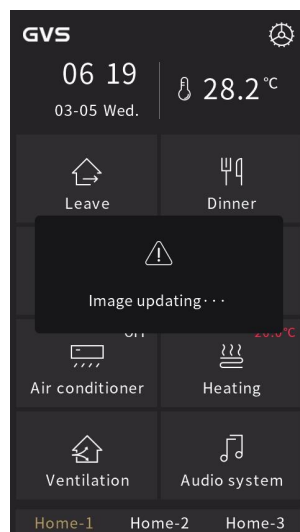
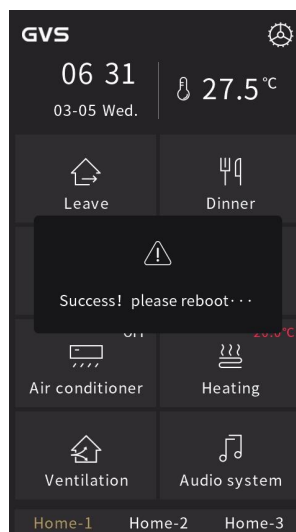
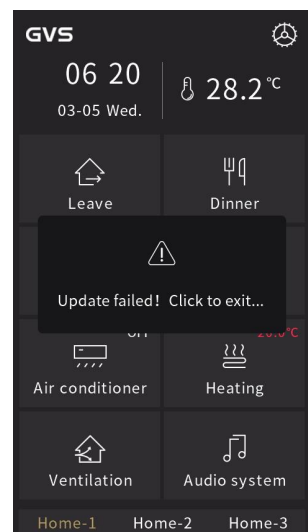
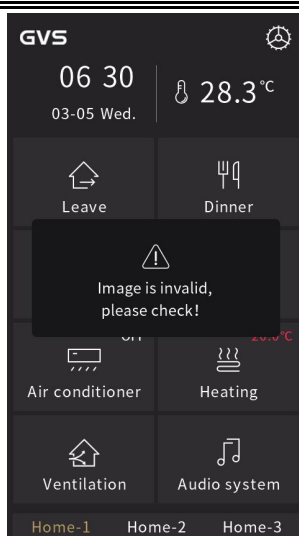

Fig.4.2
Fig.4.3
Fig.4.4
Fig.4.5
② Update pictures: when there is a folder named "Functionicon" in the Micro SD card, and there is a picture in accordance with valid name and format, then it will update and store (even if the picture is the same as the last saved).
3. Click "Confirm" to update picture; after upgrade, there will pop up a window of the result, if upgrade is successful, then reboot the device manually to apply the new function icons to the system; if upgrade is failed, click any area outside the window to return to the page, as shown in Fig.4.2, Fig.4.3, Fig.4.4 and Fig.4.5.
**Note: when upgrading, if the single picture is larger than the remaining storage space of the device (the total size of the device picture storage disc is about 15 MB), the remaining valid pictures shall be stopped updating, upgrade is failed as shown as Fig.4.4.**